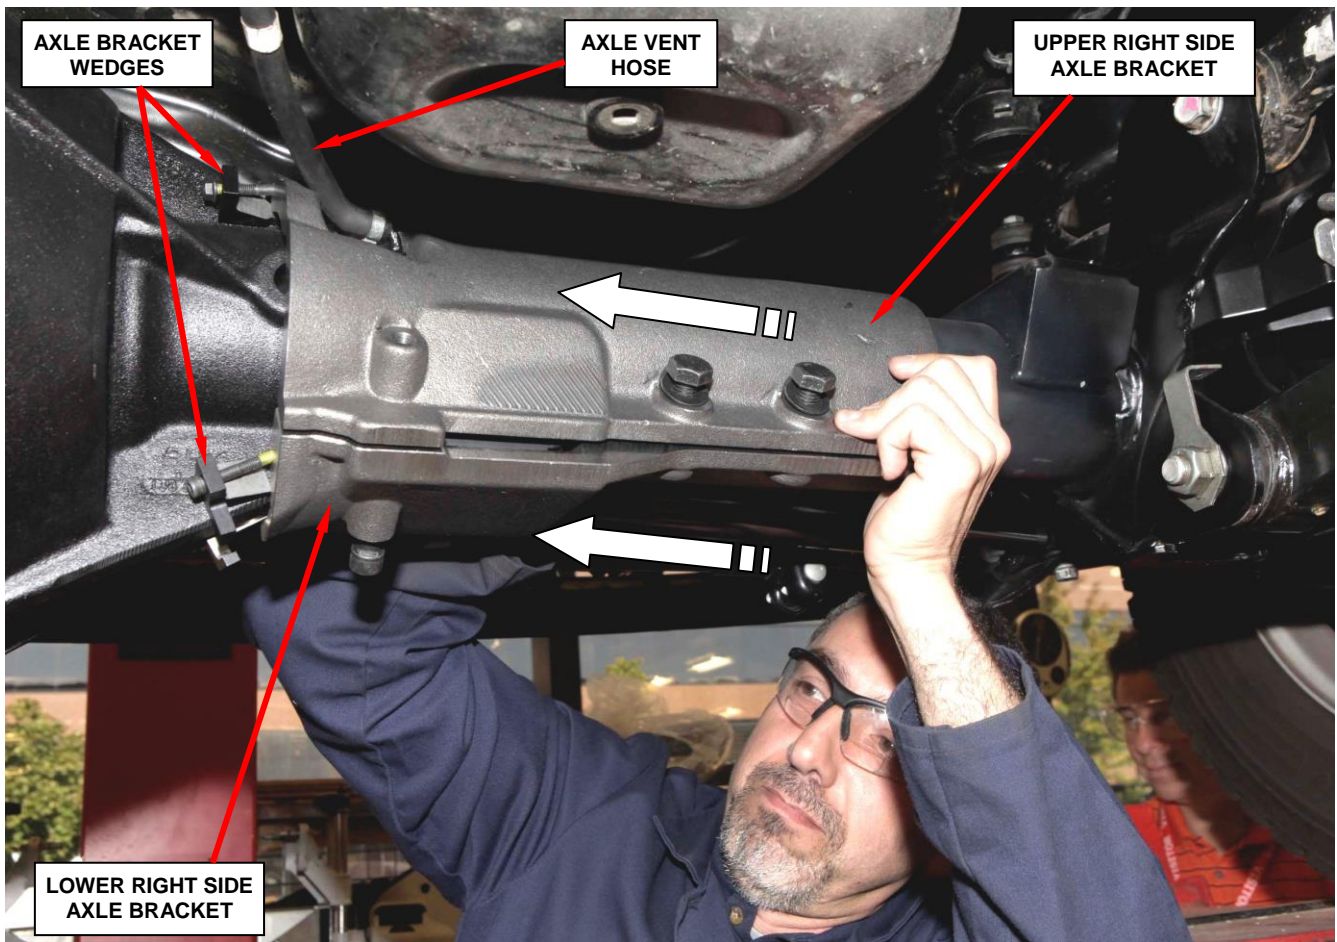

Figure 13 – Slide Reinforcement Bracket towards Differential Housing
- g. Slide the reinforcement bracket to the left until the reinforcement bracket contacts the steering stabilizer axle bracket (Figure 13 and 14).